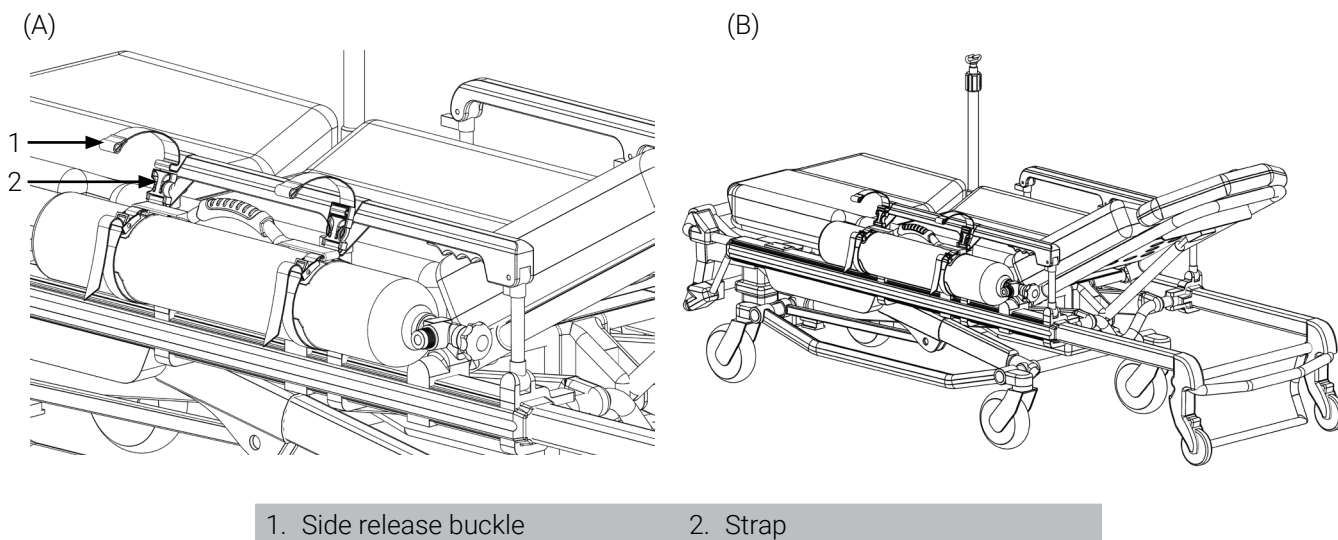

Figure 6: Installing the Techni-Harness on the stretcher siderail (4 of 4)
6. Pull on the loose ends of the side release buckle straps (Figure 6) to adjust the tension tightly against the stretcher siderail to complete the installation.